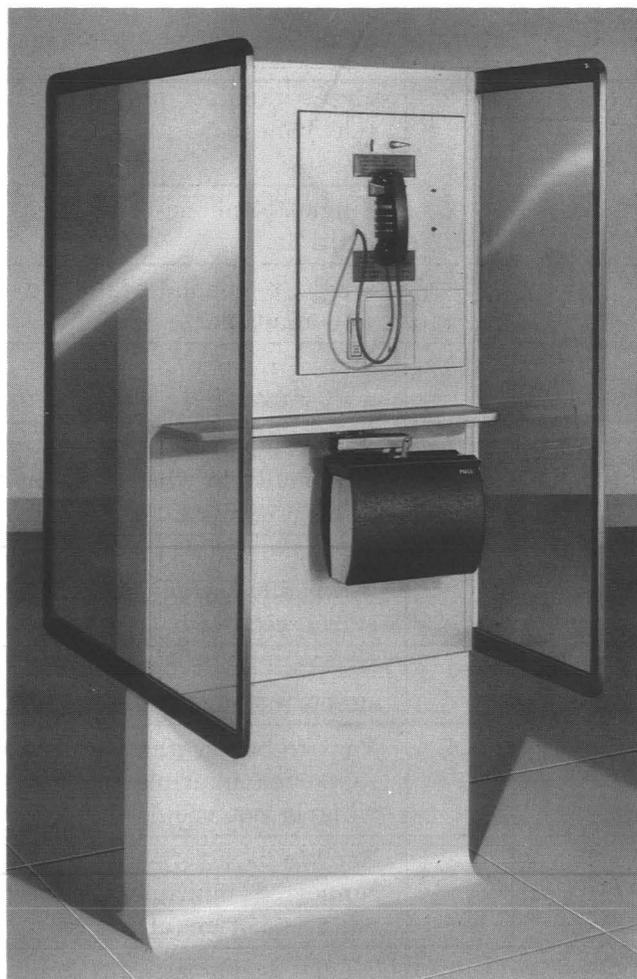

Fig. 1—KS-20630 List 1 Coin Telephone Booth With List 16 Base Assembly Concealed Beneath Dress Finish
1.03 The KS-20630 telephone booth (Fig. 1) is a doorless coin station intended for indoor walk-up service.